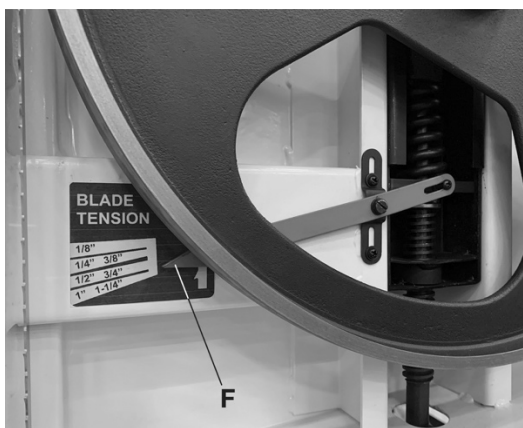

Figure 5-10
3. The gauge (F, Figure 5-10) indicates approximate tension according to blade width in inches. Initially, set blade tension to correspond with width of blade. As you become familiar with the saw, you may find it necessary to alter blade tension from the initial setting.